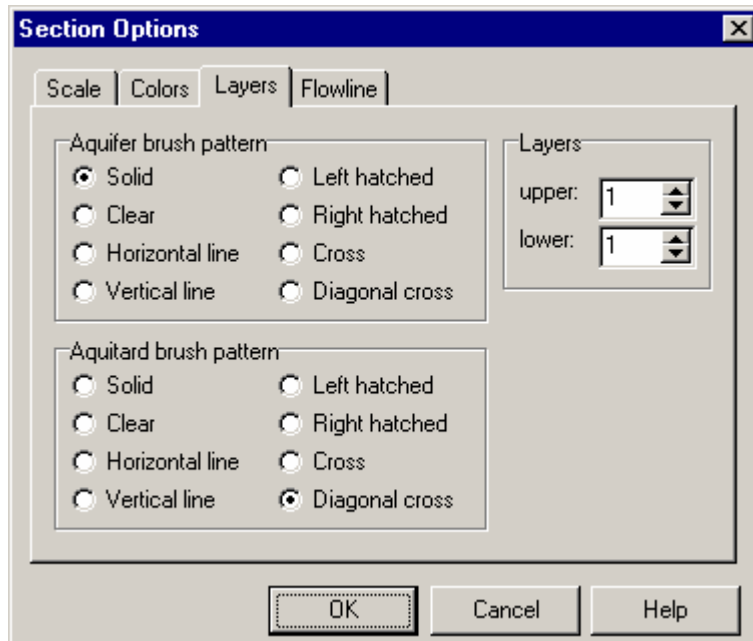

Figure 37: Section options, Layers tab
6. In the cross-section window, similar action was taken with regard to aquifer and aquitard colors. Left clicking in the color palette selects aquifers color, right clicking the aquitards color. In addition, in the Layers tab additional options can be found (patterns etc.) to further brush-up the cross section (Figure 37):